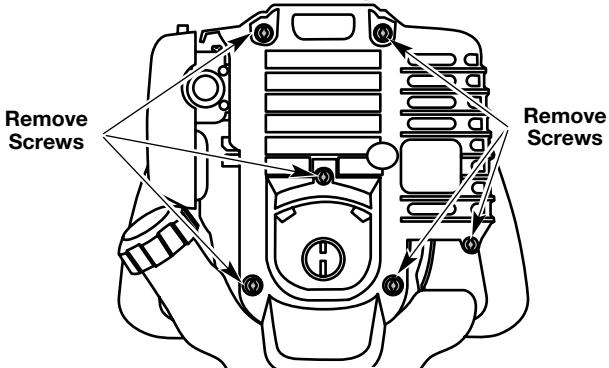

Fig. 51
1. Remove the six (6) screws on the back of the engine cover with a Flat-head or T-25 Torx screwdriver (Fig. 51).
4. Remove the engine cover (Fig. 51).
- Stop the engine and allow it to cool. Remove the six (6) screws on the back of the engine cover with a Flat-head or T-25 Torx screwdriver (Fig. 51).